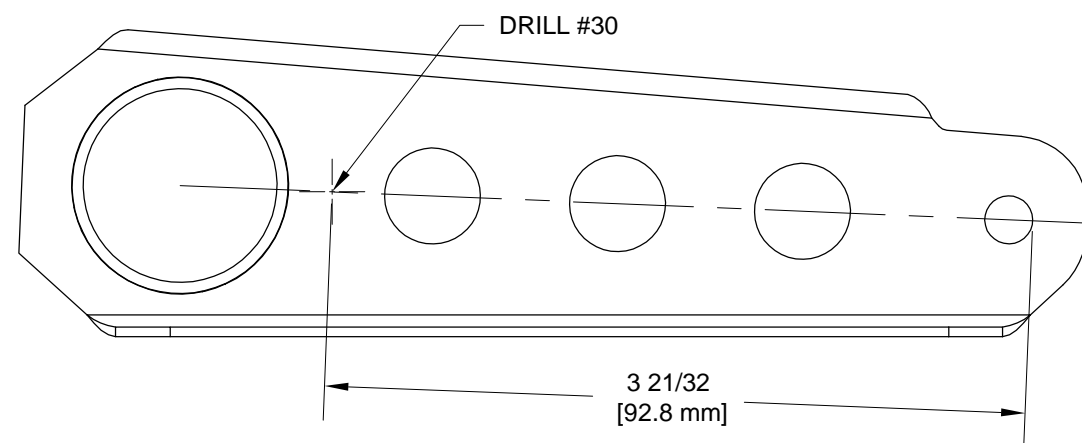

FIGURE 2: DRILL HOLE IN FLAP CRANK
Step 3: Drill one hole on the left side of the WD-1013A Flap Crank as shown in Figures 2 and 3.